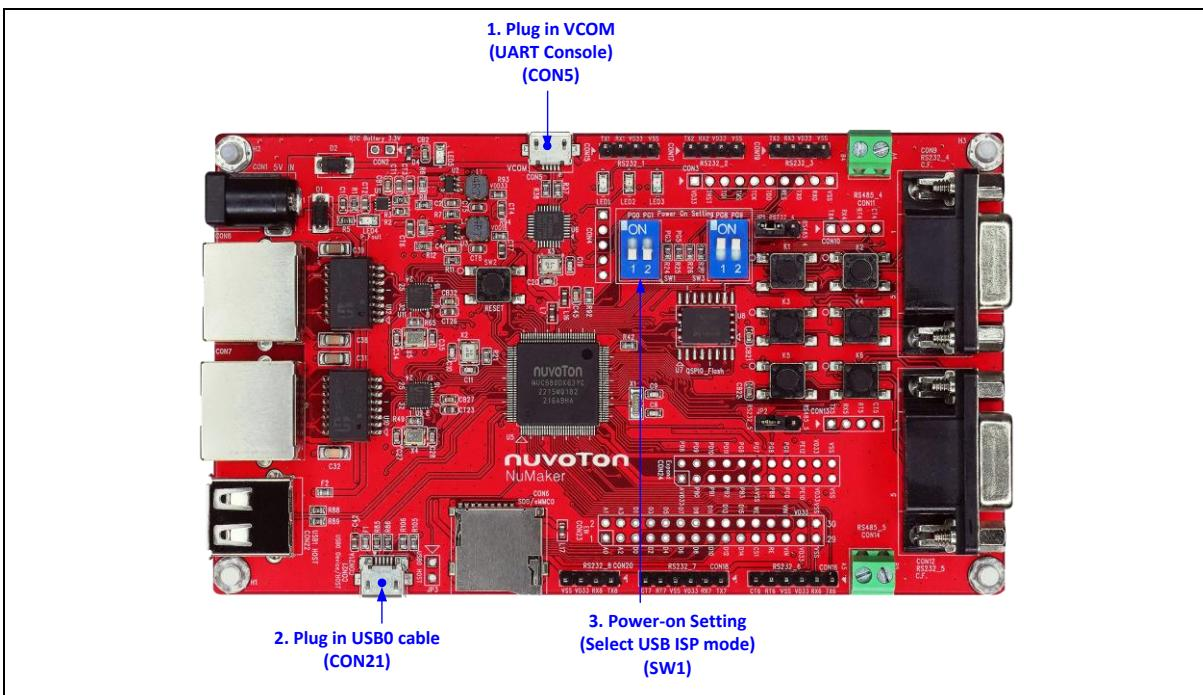

Figure 4-5 Hardware Setting
2. Set SW1(Power On Setting) to Boot from USB (shown in Table 4-1 and Figure 4-5). Connect USB0 to PC and connect UART console to PC.
- A. Set SW1(Power On Setting) to Boot from QSPI 0 Flash(refer to Table 4-1 and Figure 4-5).